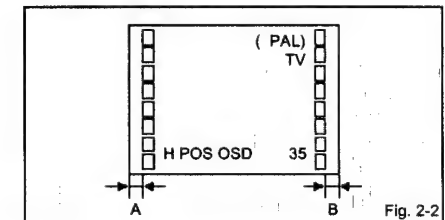

Fig. 2-2
3. Press the VOL. UP/DOWN button on the remote control until the difference of A and B becomes minimum. (Refer to Fig. 2-2)